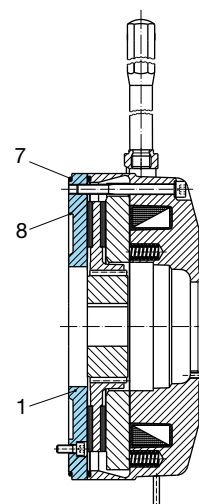

Fig. 7
We offer a range of flange plates for customer-specific solutions, such as for example the special flange plate shown in Fig. 7 (1) with customer-tailored centring (8) and sealing (7).